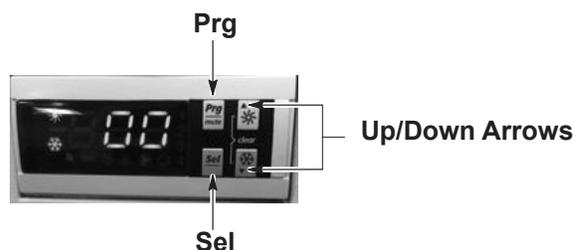

Figure 4-3 Air Conditioner Display 00
1. See Figure 4-3. Press and hold **Prg** and **Sel** for more than 5 seconds until display reads **00**.